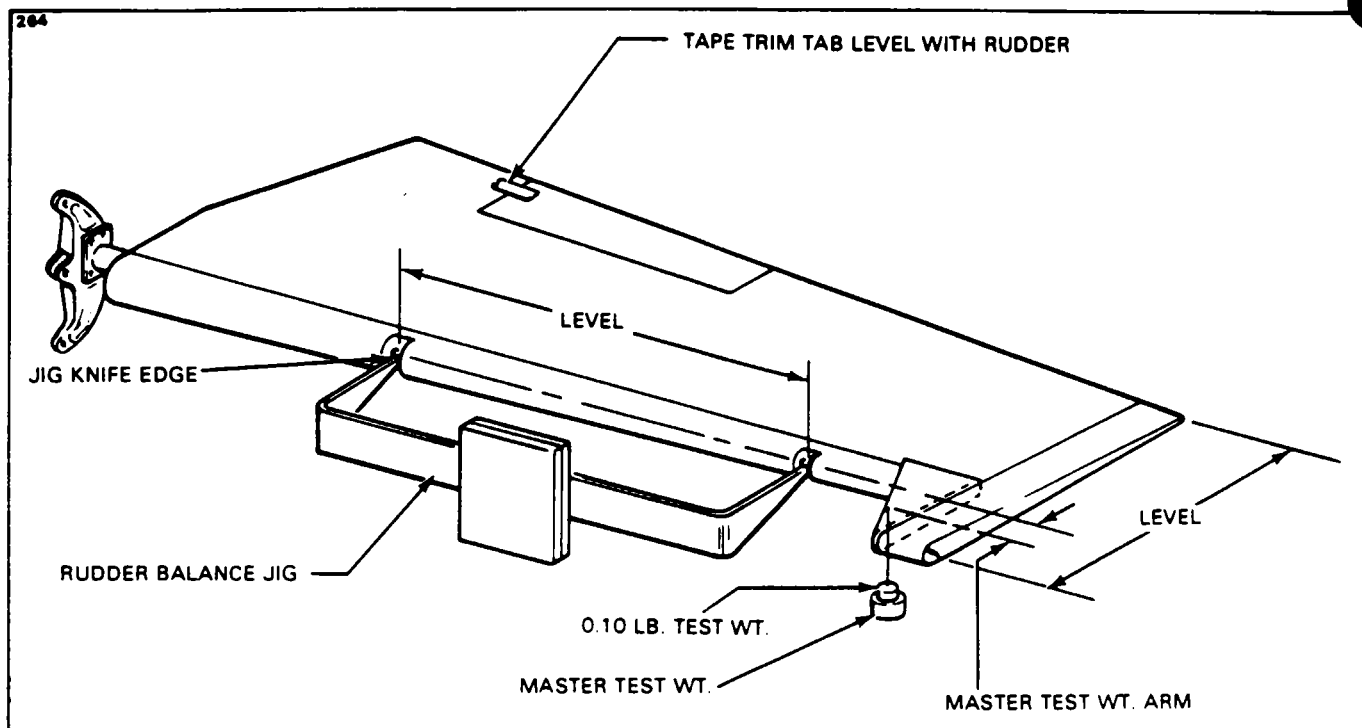

Figure 55-4. Rudder Balancing
RUDDER BALANCING PROCEDURE. (Refer to Figure 55-4.)
3. Fabricate a master test weight per specifications given in Chart 5502 and hang it in the existing tool hole in the rudder counterbalance channel. Ascertain that the tool hole is located to provide the proper master test weight arm as shown in Figure 55-4 and specified in Chart 5502.